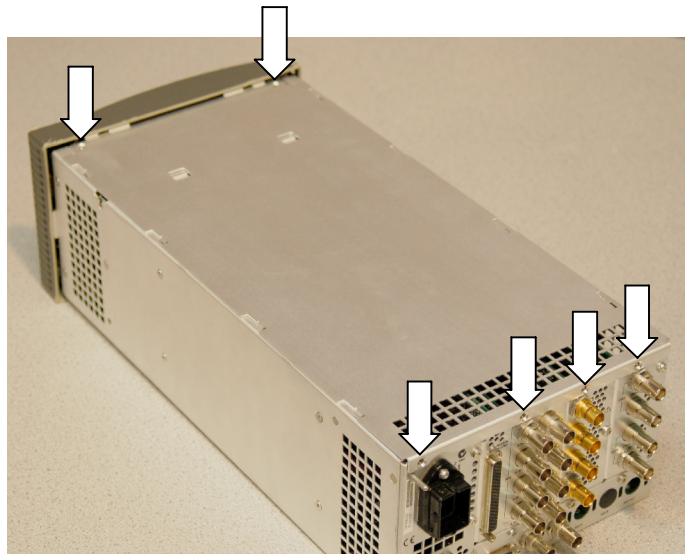

Figure 3: Removing the chassis cover
3. Remove the six screws from the chassis cover as shown in Figure 3. Save the screws for reinstallation.